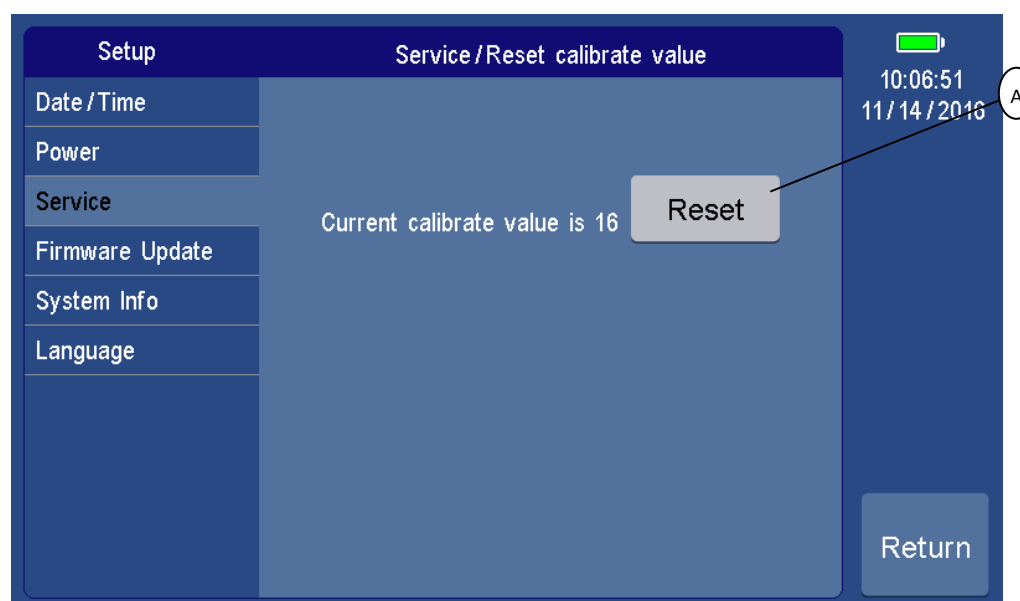

Figure 5-10-2 PadScan DS3 Calibration Value Reset
Enter the password “410011” in the input box in the Service interface and click  to enter the interface of calibration value resetting (Figure 5-10-2). Click  to reset the calibration value of this device as its default (16) .